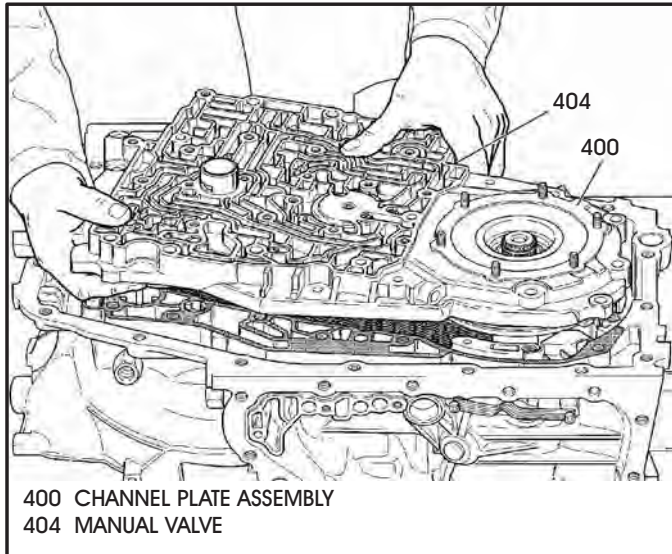

Figure 194
62. Install preassembled channel plate and ensuring that manual valve does not fall out, as shown in Figure 194.